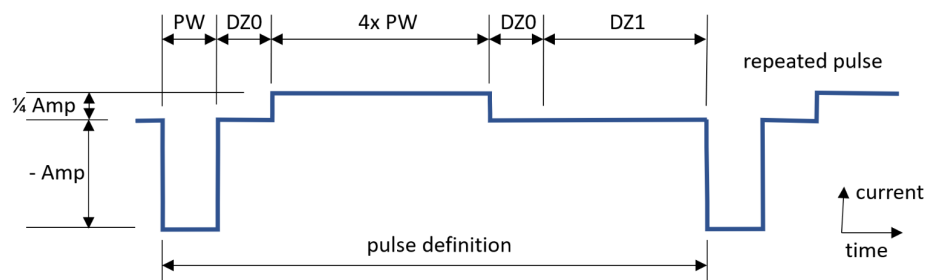

Figure 13: Definition of a pulse by timing (PW, DZ0, DZ1) and amplitude (Amp) parameters.
The timing and amplitude parameters define the stimulation pulse according to Figure 13. A Pulse is defined by its amplitude (amp), pulse width (PW), deadzone 0 (DZ0) which is a configurable pause before and after the counter pulse. Deadzone 1 (DZ1) is a pause in between two pulse repetitions. The selection of Source/Destination channels defines the actual stimulation electrode function: The current leaves the implant through the source contact(s), pass the tissue and re-enter the implant through the destination contacts, and/or the Ground contact.
Function repetitions defines how often the stimulation pulse is applied. The exact number of repetitions is calculated with two parameters: *pulse* and *burst repetitions*. The system interprets the two values by delivering the stimulation pulse pulse repetitions times as shown in Figure 13 with no pause between the pulses. This group of repeated pulses is called a burst. The burst is applied burst repetitions times with a pause of 10 μ s between each burst execution. The total number of times a stimulation pulse is applied can simply be calculated as follows: